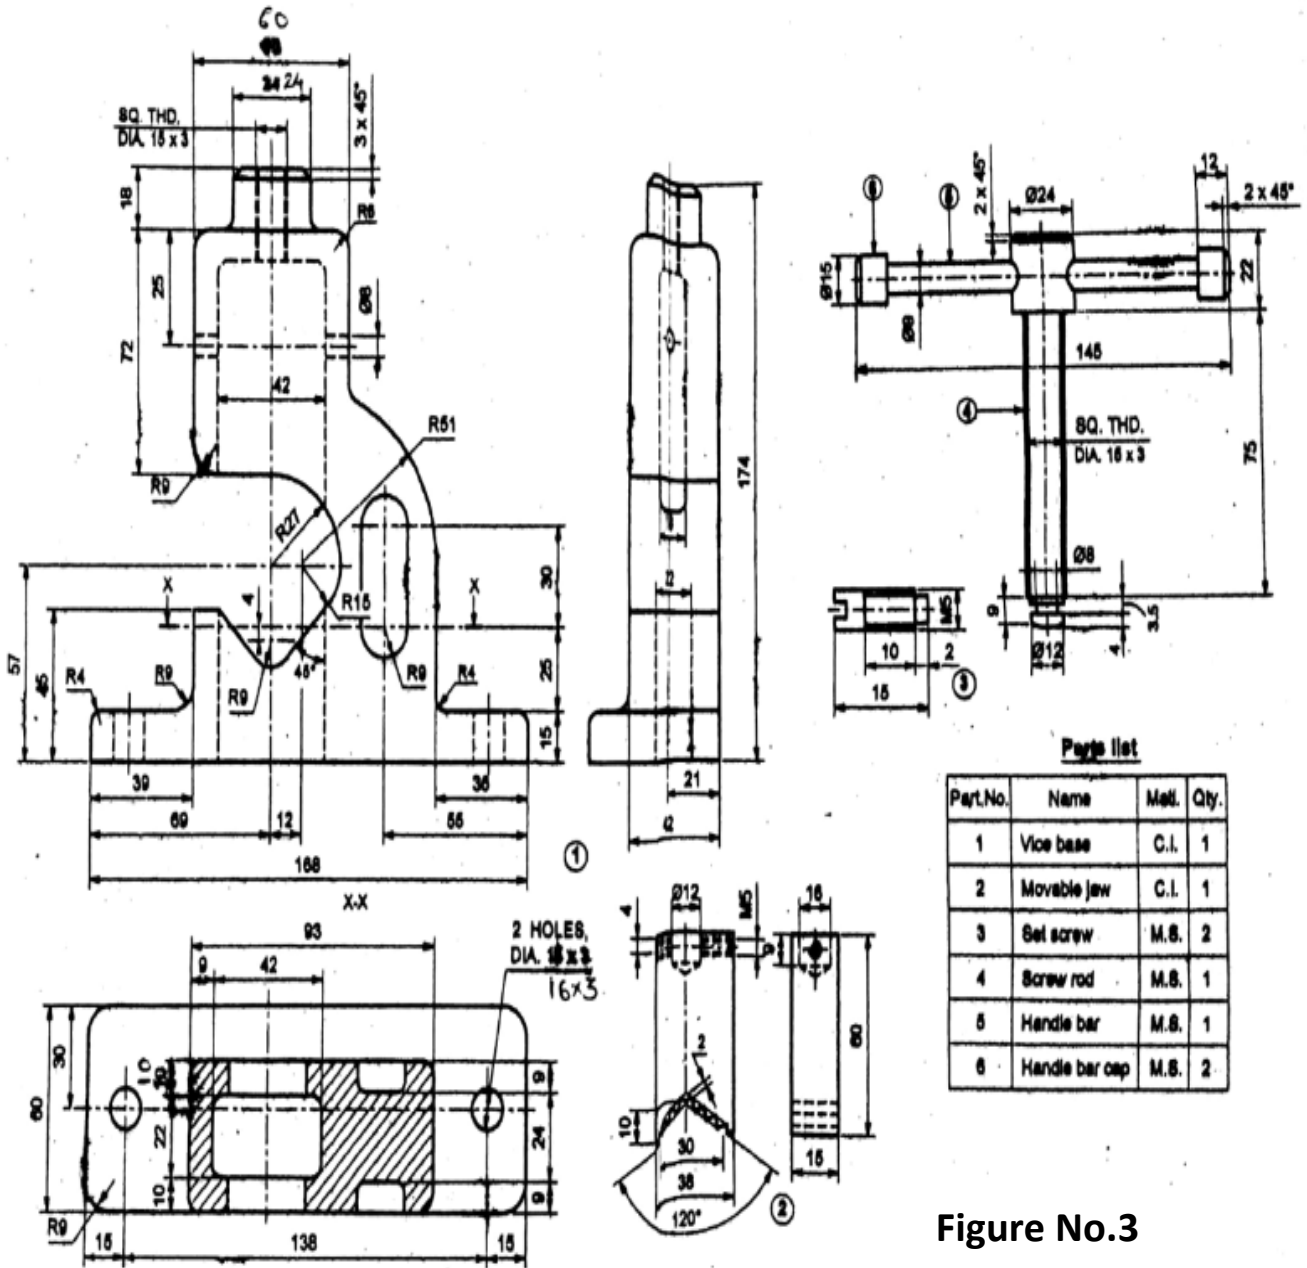

Figure No.3
- Q.5 The details of pipe vice are shown in fig. no. 3. Draw assembly drawing as follows:-